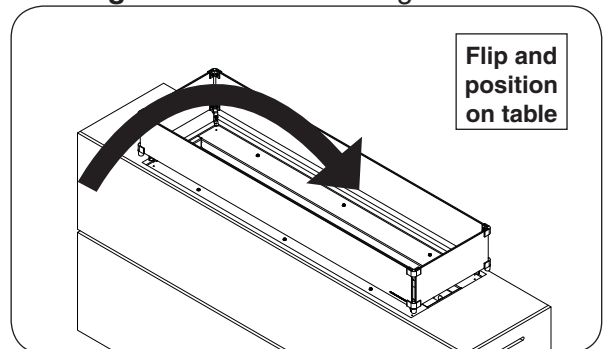

Fig. 21-4 Place wind guard
6. Place the wind guard into the burner area, ensuring that it is centered (see Fig. 21-4).